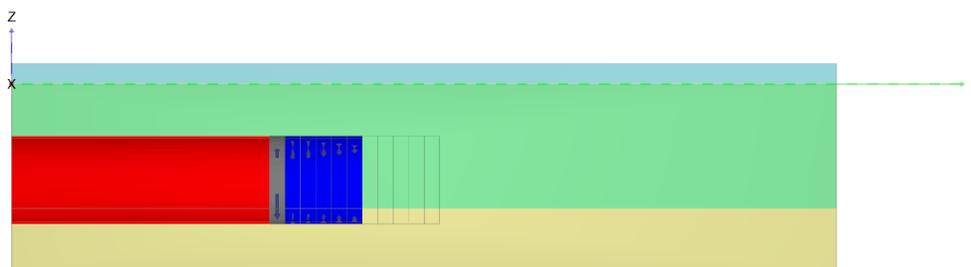

Figure 88: Selection of soil volumes (0 m - 25 m)
4. In the drawing area select the soil volumes corresponding to the lining in the first 25 m (Figure 88 (on page 115))